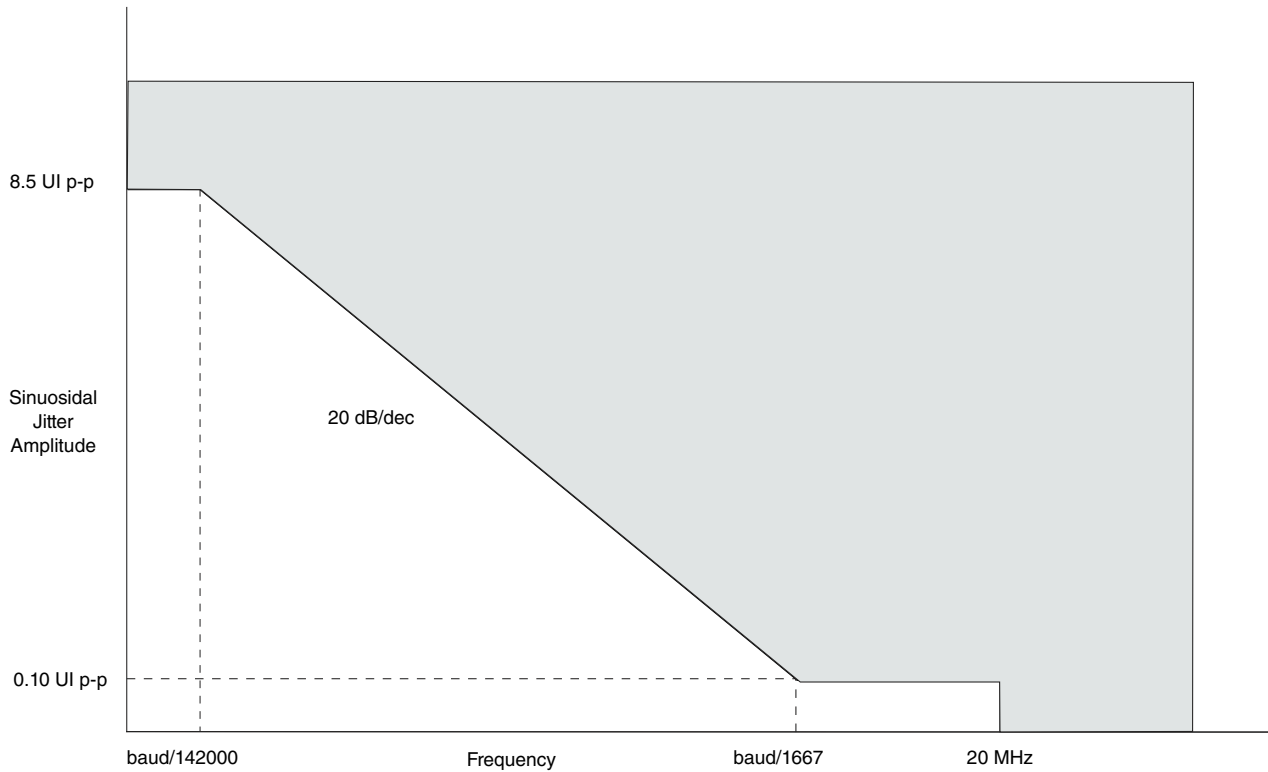

Figure 43. Single-frequency sinusoidal jitter limits
- Total jitter is composed of three components: deterministic jitter, random jitter and single frequency sinusoidal jitter. The sinusoidal jitter may have any amplitude and frequency in the unshaded region of Figure 43. The sinusoidal jitter component is included to ensure margin for low-frequency jitter, wander, noise, crosstalk, and other variable system effects.